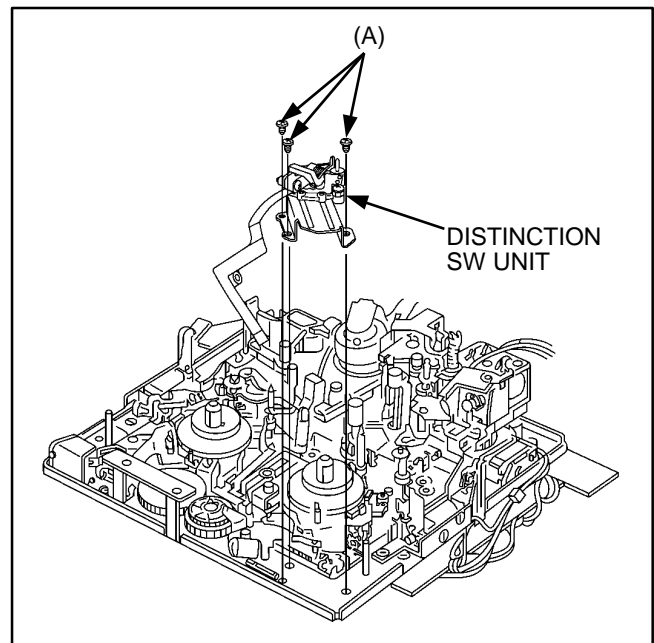

Figure 1-25
1. Disconnect the **connector (A)** on the **P.C.Board (B)**. (Refer to above charts.)
2. Remove the MIC Drive Rev Spring at Distinction Switch Unit side as shown in Figure 1-25.
3. Unscrew the 3 screws (A) and remove the MIC Rail Unit as shown in Figure 1-25.